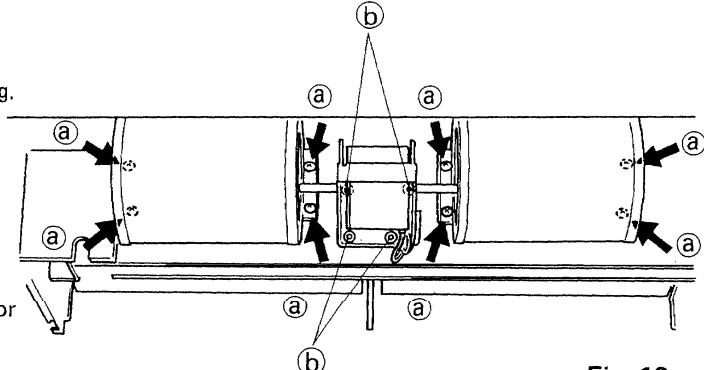

Fig. 10
- 3) Remove the four nuts **(b)** fixing the fan motor stand. Fig. 10